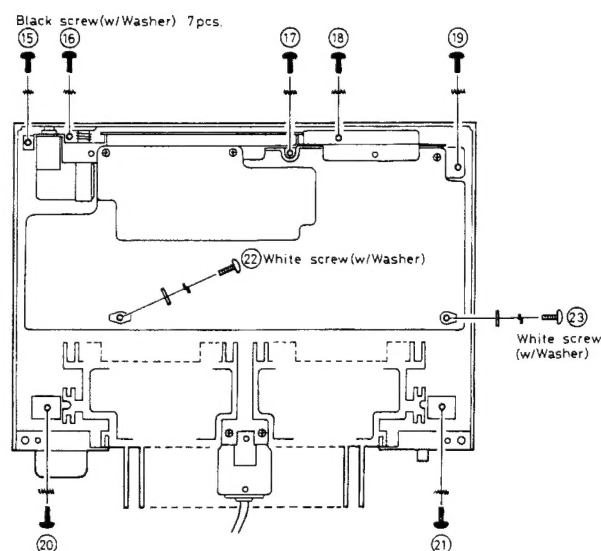

Fig. 4
5. Remove 9 setscrews (⑮ ~ ⑳), in Fig.4) which secure printed circuit board, chassis and heat sink.
7. When installing, refer to Fig. 4 and pay attention to installing positions.